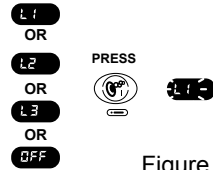

Figure 11
- Once the new setting appears of the display, press the **Jets Pump 1** () button to confirm your selection (Figure 11). The display of the LED screen will blink twice to indicate that the change has been accepted. You must press the **Jets Pump 1** () button to confirm your selection or the current settings will remain active.